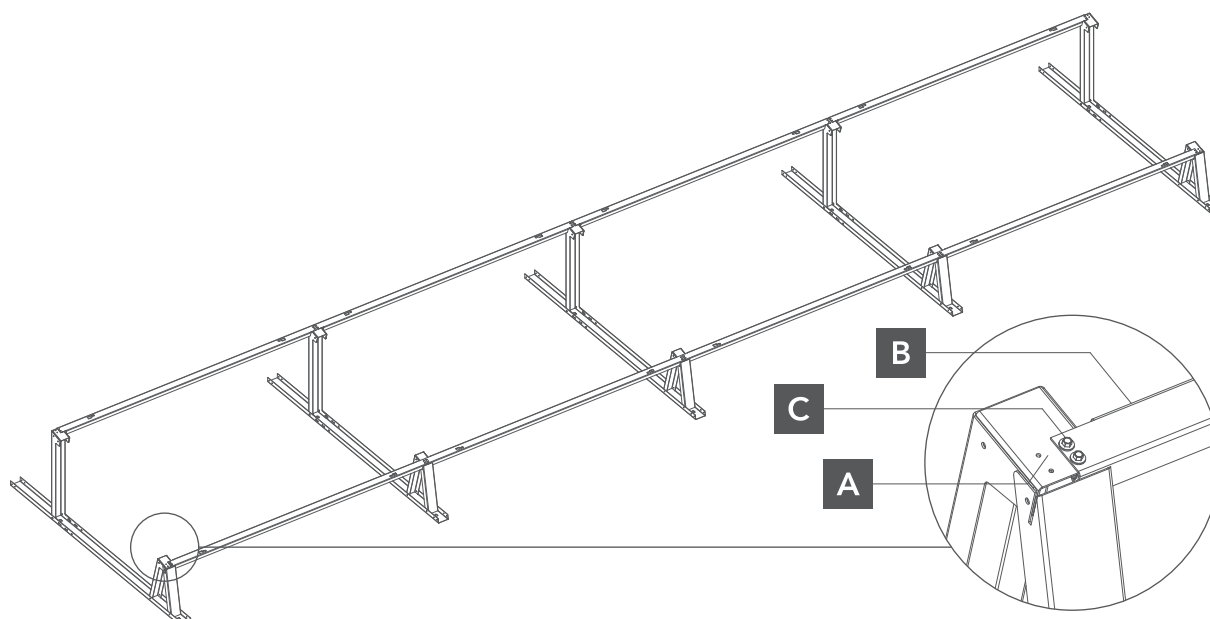

Fig. 3. attachment of the beam to the mounting triangle
- 2 Subsequently, the connection angle should be adjusted to the mounting bracket and fasten it with self-tapping screws (Fig. 3).